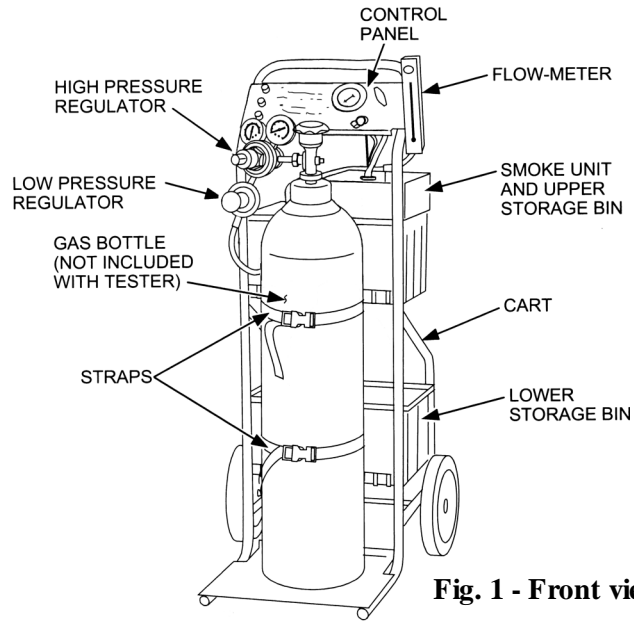

Fig. 1 - Front view
2. Tester arrives almost fully assembled. Store any adapters, light and other accessories included with the Tester in lower storage bin (fig. 1).
ⓘ IMPORTANT SAFETY POINT: Make sure the Gas Cylinder is securely fastened to the cart, with the two fastening straps provided, at all times (fig. 1).